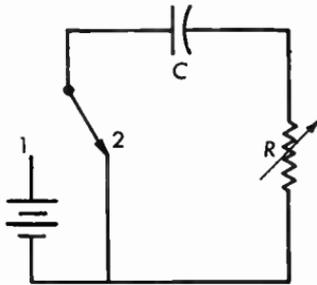

Fig. 13.06 Equivalent circuit of a charge and discharge path of a capacitor.
13.06 The capacitor C in Figure 13.06, having been charged to E volts, is to be discharged by throwing the switch to position No. 2. If a residual charge of 0.75 per cent of the original charge is considered to be a practical discharge, after how many $R C$ -time constants will the capacitor be practically discharged?